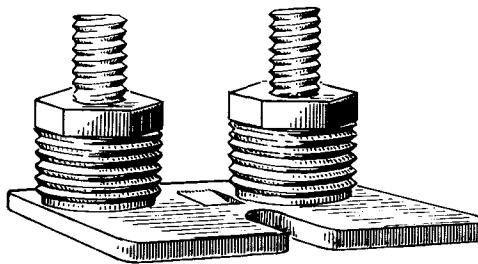

Fig. 49—2A Ground Strip
7.03 The 2A ground strip (Fig. 49) consists of a brass plate with two binding posts. The plate